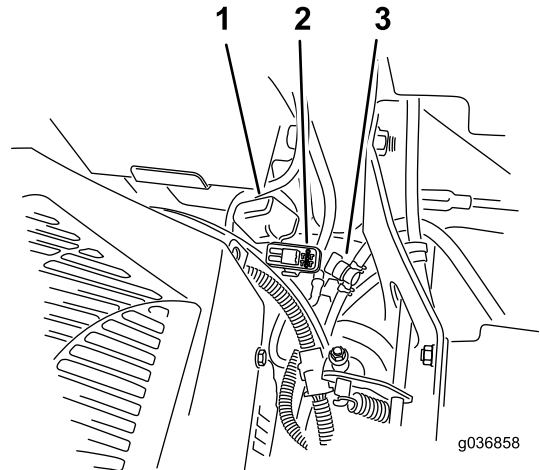

Figure 70
The fuses are located on the right console next to the seat (Figure 70).
2. Install a new fuse (Figure 70).